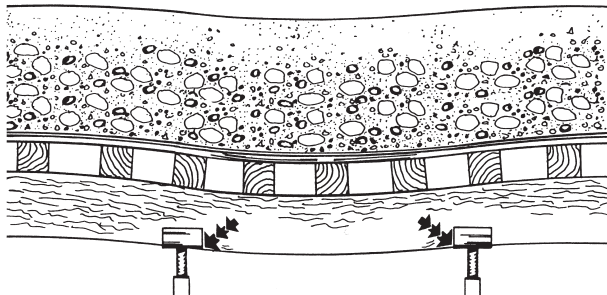

Figure 220 – Deflection of Stringers Between Supports
- deflection of stringers between supports (Figure 220)